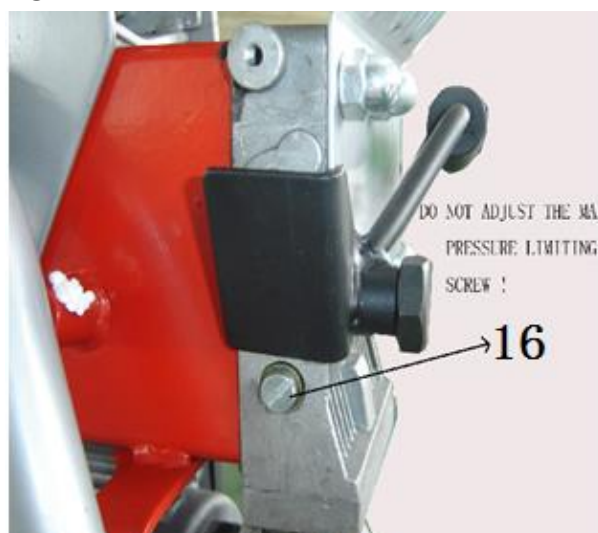

Fig. 7
LIMITING SCREW (16) IN FIG. 7!